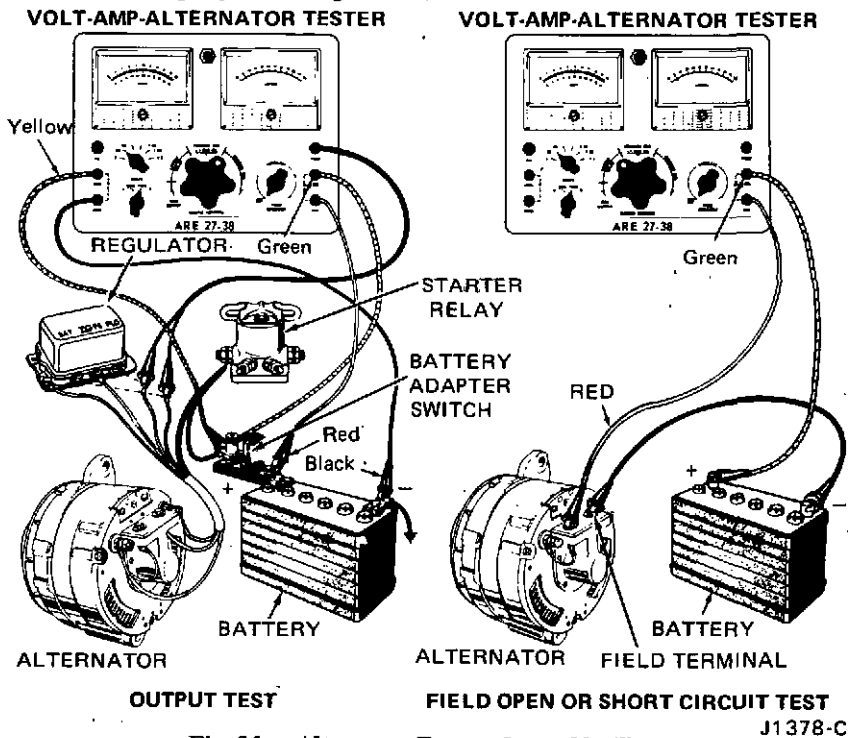

Fig. 31 – Alternator Tests – Leece-Neville
1. Place the transmission in neutral or park and apply the parking brake. Make the connections and tester knob adjustments as shown in Fig. 31 (Output Test). Be sure that the field rheostat knob is at the OFF position at the start of this test.
Make the connection as shown in Fig. 31 (Field Open or Short Circuit Test). The current draw, as indicated by the ammeter, should be to specification (see Specification Chart - page 43). If there is little or no current flow considerably higher than that specified, indicates shorted or grounded field turns or brush leads touching. If the test shows that the field is shorted or open and the field brush assembly or slip rings are not at fault, the entire rotor must be replaced.